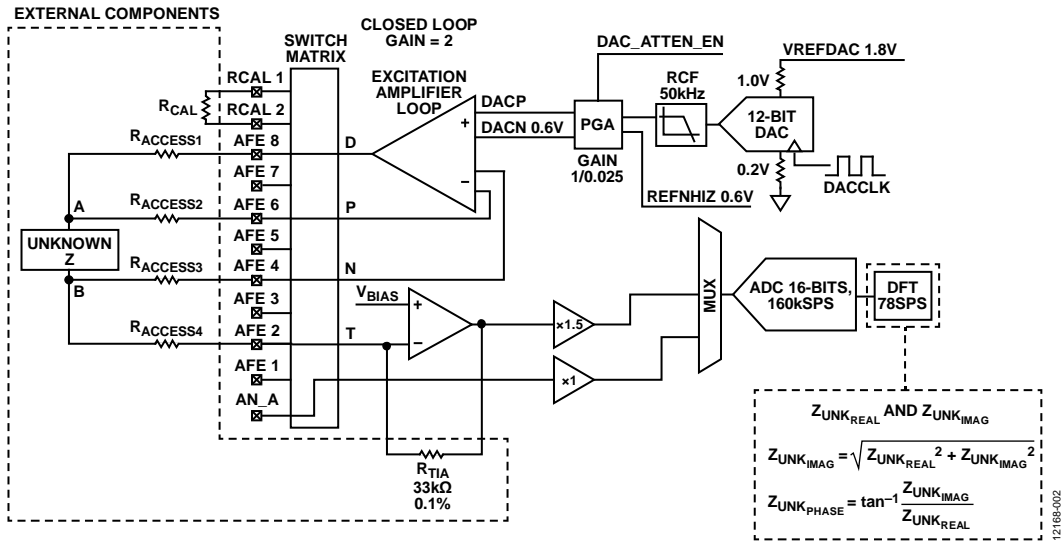

Figure 3. 4-Wire Topology for ADuCM350—Measuring Impedance (Z)
2. Change the switch matrix configuration, as shown in Figure 3, and excite the sensor measuring the response current. The DFT engine now calculates the real and imaginary components of the unknown impedance, Z .
An alternative approach is to use a high precision excitation voltage source as the force signal. Apply this voltage to Z and measure the response current using a high accuracy current meter (see Figure 3). The unknown impedance, Z, is then measured by the following equation:
Referring back to Figure 3, it is possible to measure 4-wire impedance using the ADuCM350. The excitation stage excites the sensor with a known voltage, which is accurately differentially sensed using the internal instrumentation loop. The current response is measured through the TIA channel and converted to a voltage.